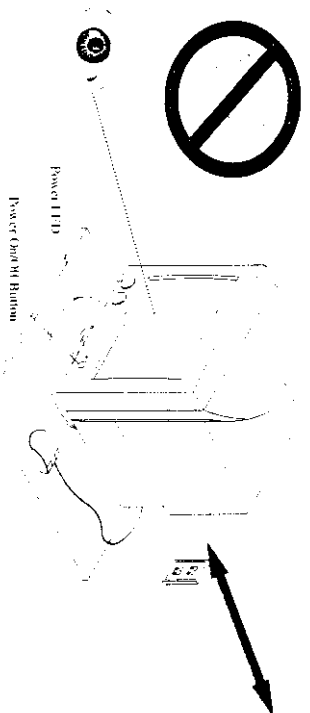

Figure 2: The Workstation
- Make sure that the monitor is powered *Off*. When powered off the Power LED (see Figure 2) will not be lit.